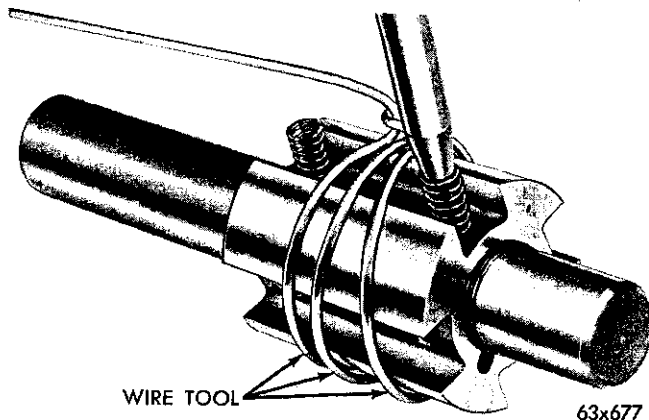

Fig. 15—Installing the Slipper Springs (Typical)
(12) Use an ordinary wood pencil with the point broken to install the new springs. Enter the blunt tapered end of the pencil in the spring and snap the springs into the pockets in the rotor by turning the pencil clockwise (Fig. 15). Install the springs and slippers in one rotor slot at a time. Remove the pencil from the spring with a counter-clockwise rotation. Either end of the spring may be inserted into the rotor pocket.